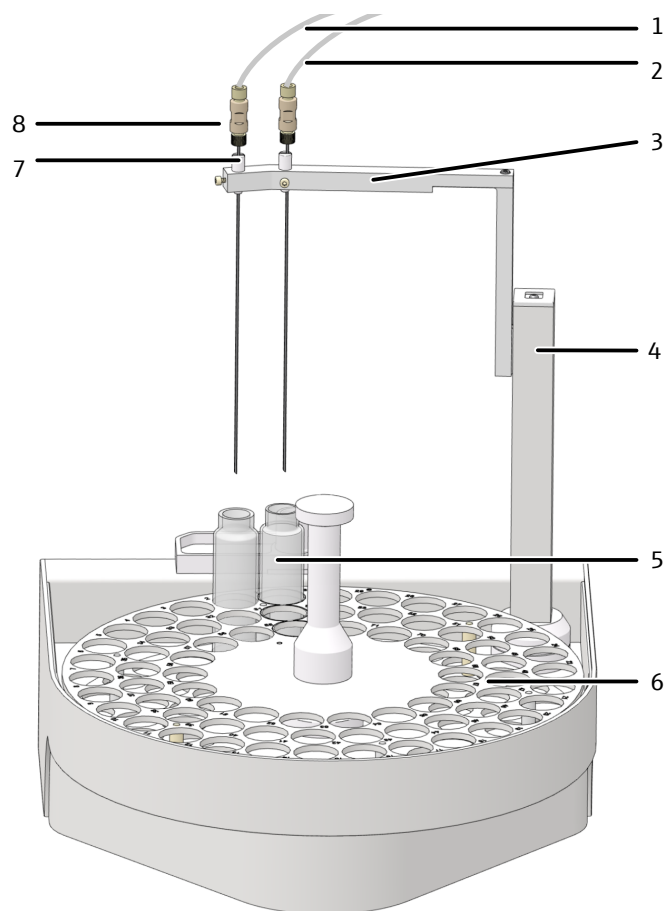

Fig. 25 Layout of the AS vario autosampler
- ▶ For NPOC measurement with parallel purging: Insert one canula each with sleeve in both positions of the canula holder (Fig. 25  48).